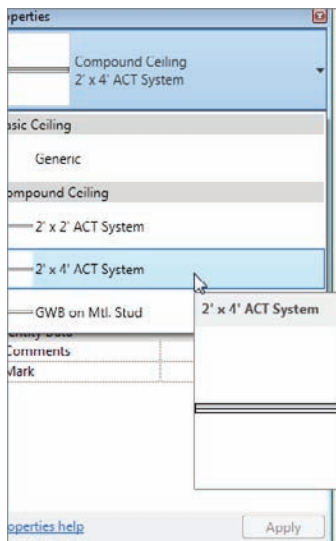

FIGURE 9.3 The available ceiling types listed in the Type Selector
4. Choose $2' \times 4'$ ACT System (600 × 1200mm Grid) from the Type Selector, as shown in Figure 9.3.